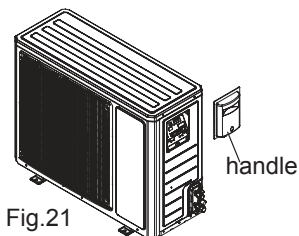

Fig.21
- (1) Remove the screw on the right handle of outdoor unit and then remove the handle.(As show in Fig.21)